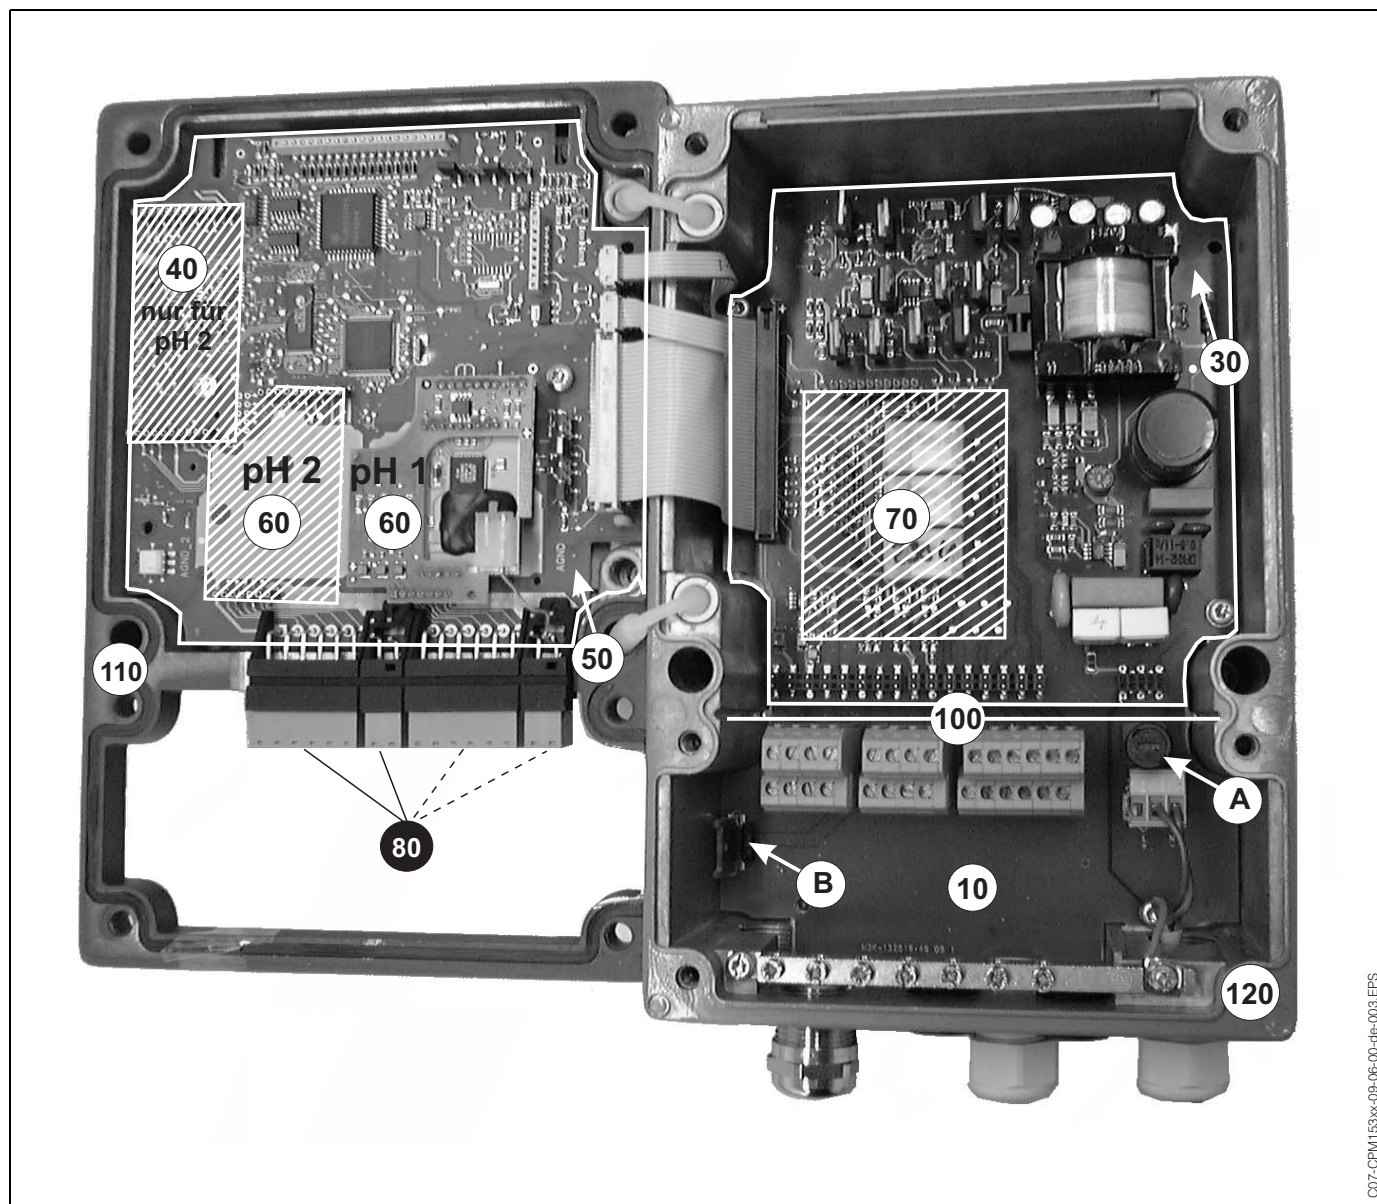

Fig. 28: Interior view of the transmitter Mycom S
- Position of the fuse holder: "A" in fig. 28